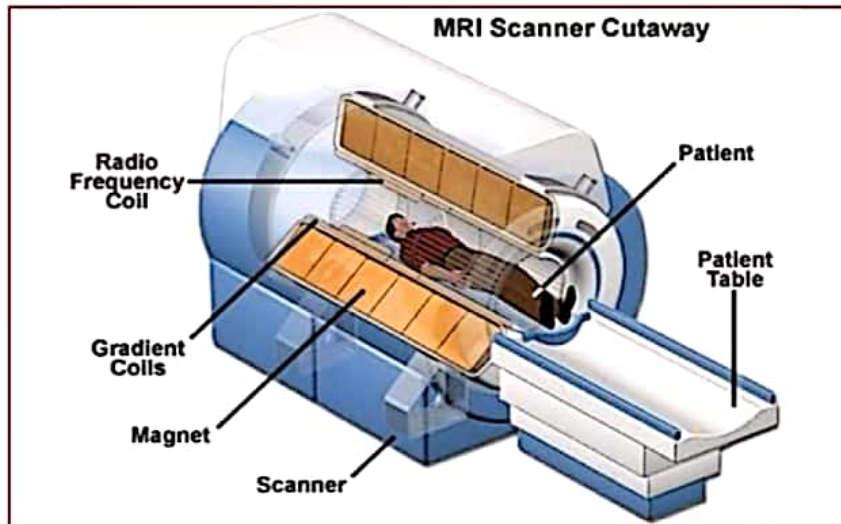

Figure 9.8: MRI Scanner Cutaway
There is more hardware needed to make an MRI system work. A very important part is the Radio Frequency (RF) chain, which produces the RF signal transmitted into the patient, and receives the RF signal from the patient (see figure 9.8). Actually, the receive coil is a part of the RF chain.